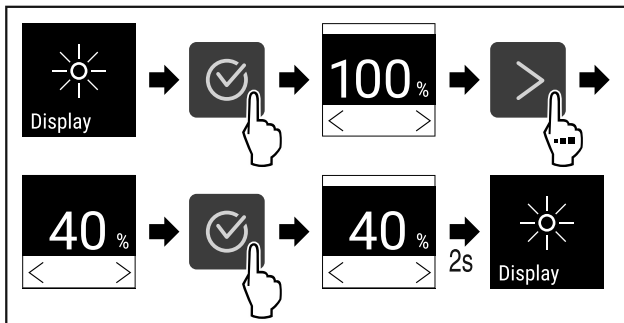

Fig. 81
- ▶ Complete the steps (see Fig. 81) .